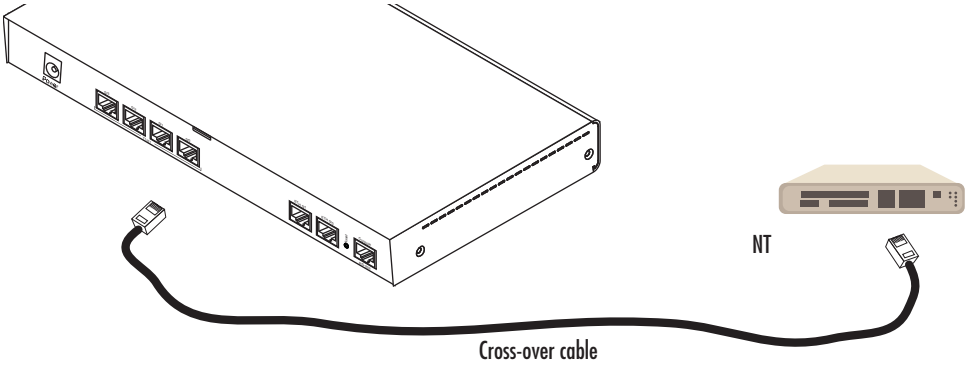

Figure 14. Connecting a T1 PRI port to an NT1
The T1 PRI is usually connected to a PBX or switch—local exchange (LE). Type and pin outs of these devices vary depending on the manufacturer. In most cases, a straight-through RJ-45 to RJ-45 can be used to connect the PRI with a PBX. A cross-over cable is required to connect to an NT device, as illustrated in figure 14 on page 21.